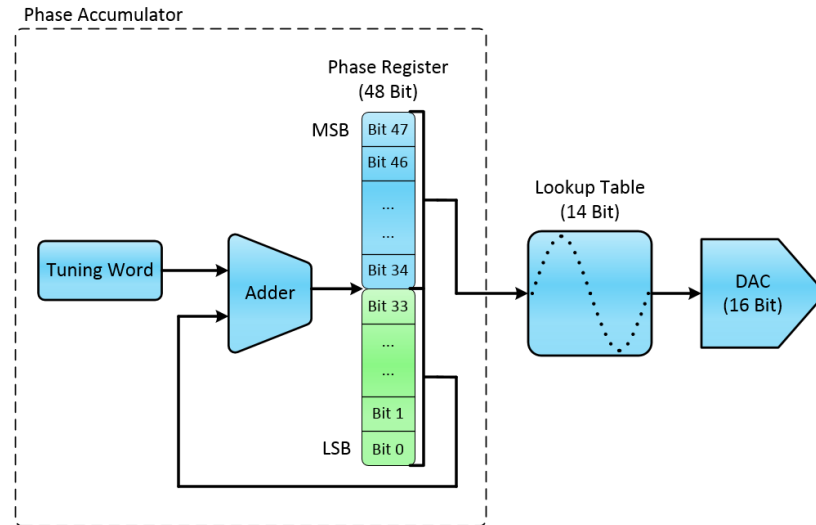

Figure 2. Hardware Block Diagram for the DDS Architecture
DDS implementation requires three main hardware building blocks: a (1) sample clock, (2) phase accumulator, and (3) lookup table, which is an implementation of a programmable read-only memory. Figure 2 shows the higher level flow from hardware to hardware block.